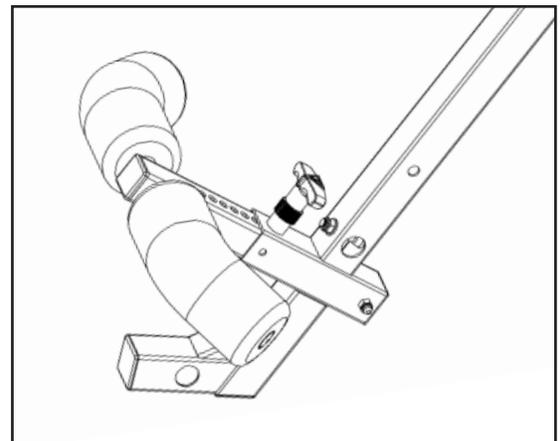

Figure 11
- Rotate the Clamps counterclockwise so that the pin holes face up (Figure 11). Re-engage the square tubing into the Main Shaft.